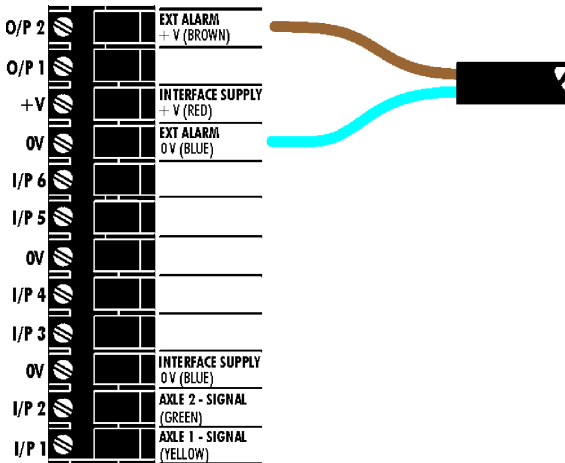

Fig. 13 - External Alarm Connection
- (ii) Connect to the Terminator (fig. 13).